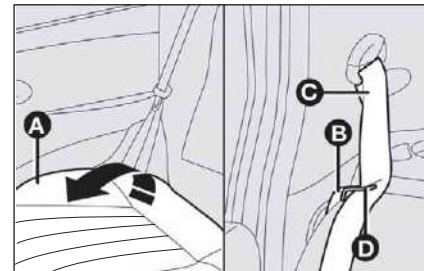

fig. 105
- check that each of the two side seat belts **C-fig. 105** is inserted in the corresponding seat belt guide **D**;